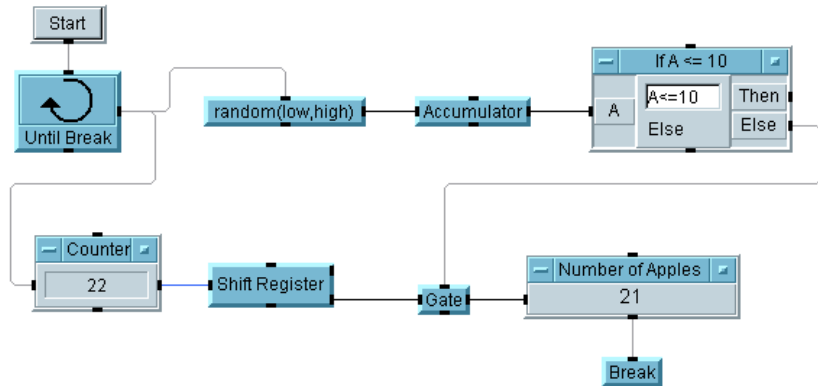

Figure A-2. Apple Bagger, Solution 2
- **Optimal Solutions:** To optimize the performance of programs, use fewer objects, if possible. This solution uses six objects. The program could also be implemented with 10 objects, as Figure A-2 shows.
Figure A-2 gives another solution using more objects.